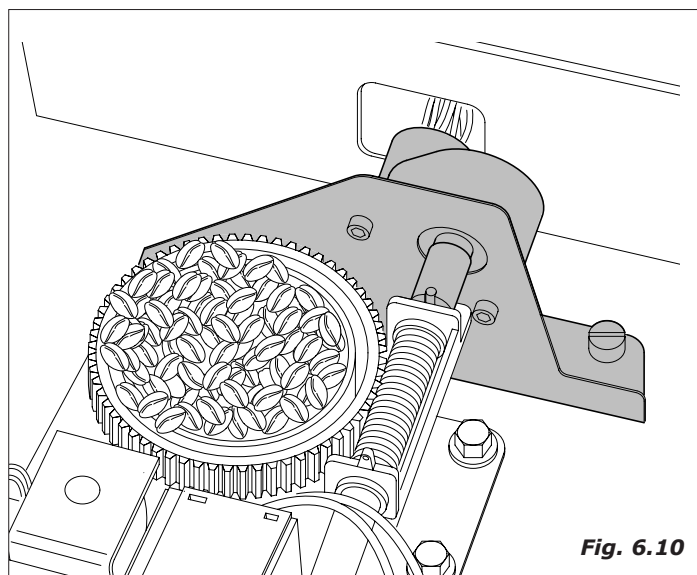

Fig. 6.10
**- Automatic adjustment of grinding (Fig.6.10)**